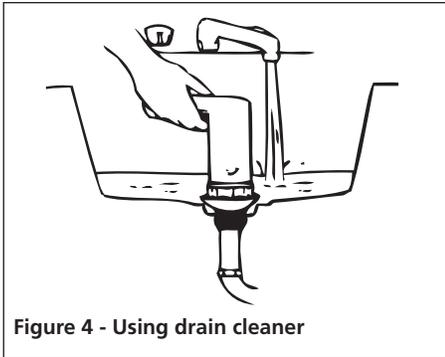

Figure 4 - Using drain cleaner
- With water at the drain opening, press the drain cleaner firmly into the drain opening, squeeze and quickly release the gun trigger (see Figure 4).